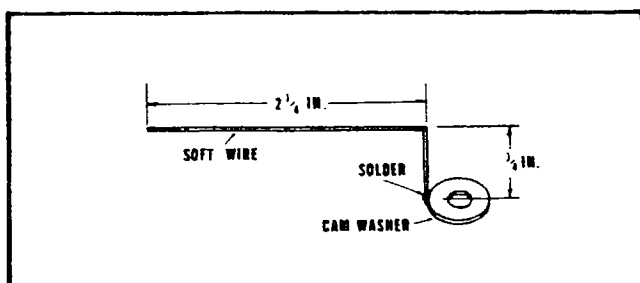

Figure 12-7. Timing Pointer
- b. Fabricate a timing pointer as shown in figure 12-7.